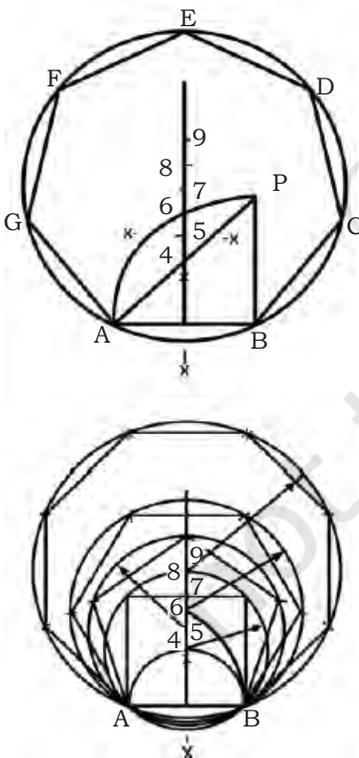

Fig. 1.26: Drawing a polygon
8. For inscribing heptagon and octagon, and their respective circles, mark centre point 7, 8, with 6-7, 7-8 equal to the distance 4-5 as shown in Fig.1.26.